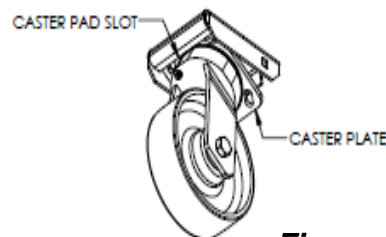
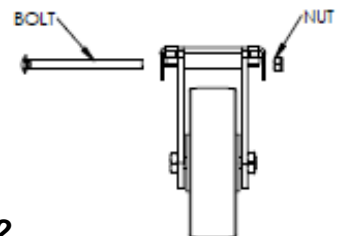

Figure 2
Figure 3
4. Place one end of the caster plate into the slot as shown in Figure 2. Insert the caster plate into the caster pad. Insert the bolt into the caster pad as shown in Figure 3 and screw on the nut making sure it is tight. This will hold the caster into the caster pad. Repeat these steps for all remaining casters.